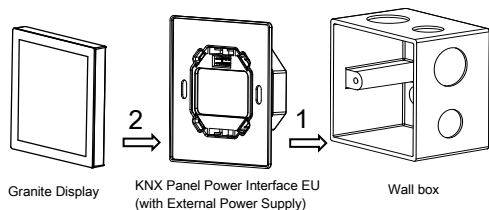

Figure 9. Installation
**Installation - See Figure 9** (Take KNX Panel Power Interface EU (with External Power Supply) as an example )
Installation	Wall box (See Figure 9)